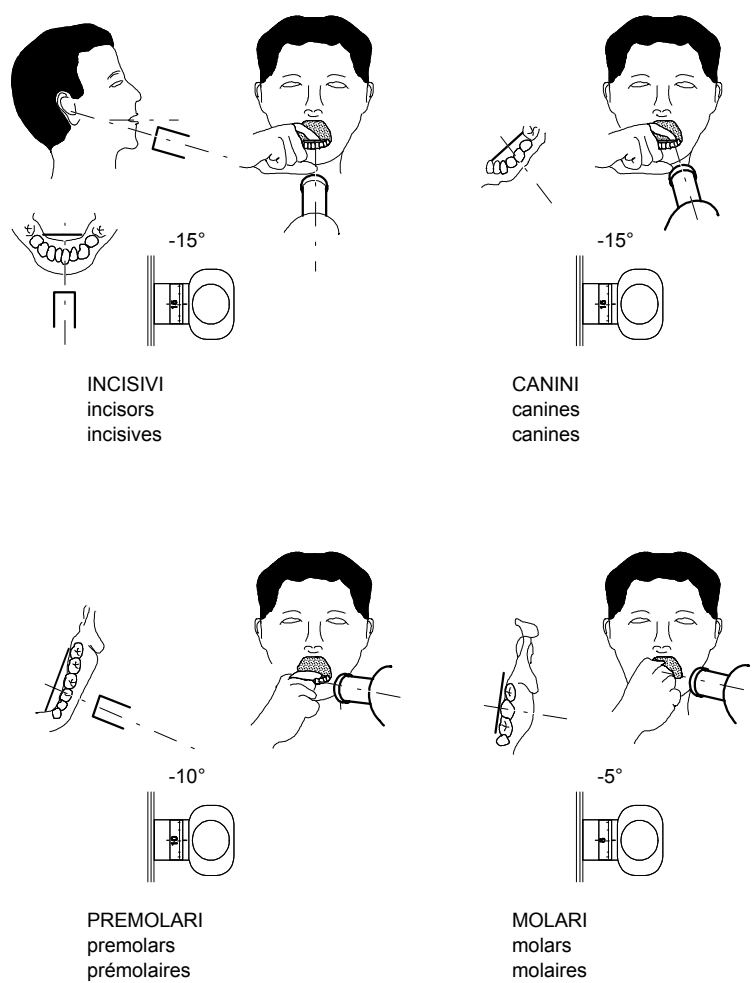
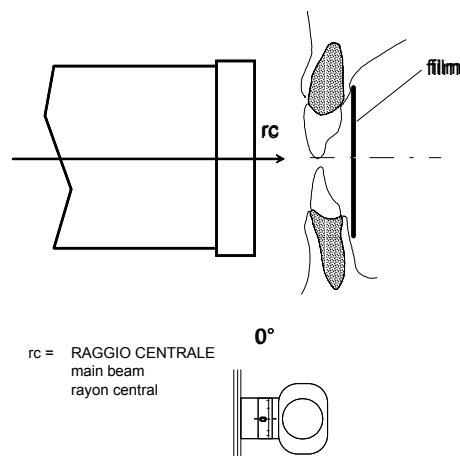

Figure 5
Figure 8
- a) Arrange the tubehead with an angle suitable for the required exposure and positioning (See Figure 5 ÷ Figure 8).